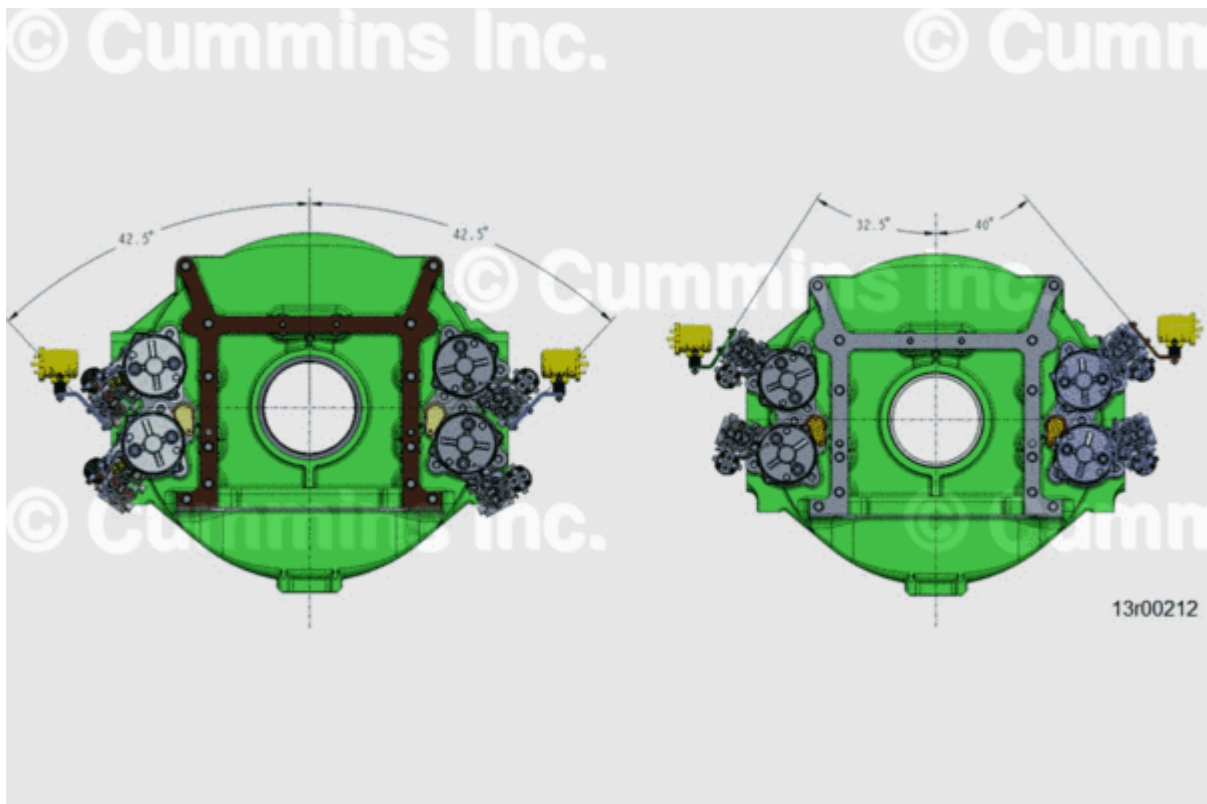

Figure 2, Magnetic Switch Orientations. Left: QSK. Right: KV.
- Figure 2 shows the correct mounting bracket depending on starting motor orientation.